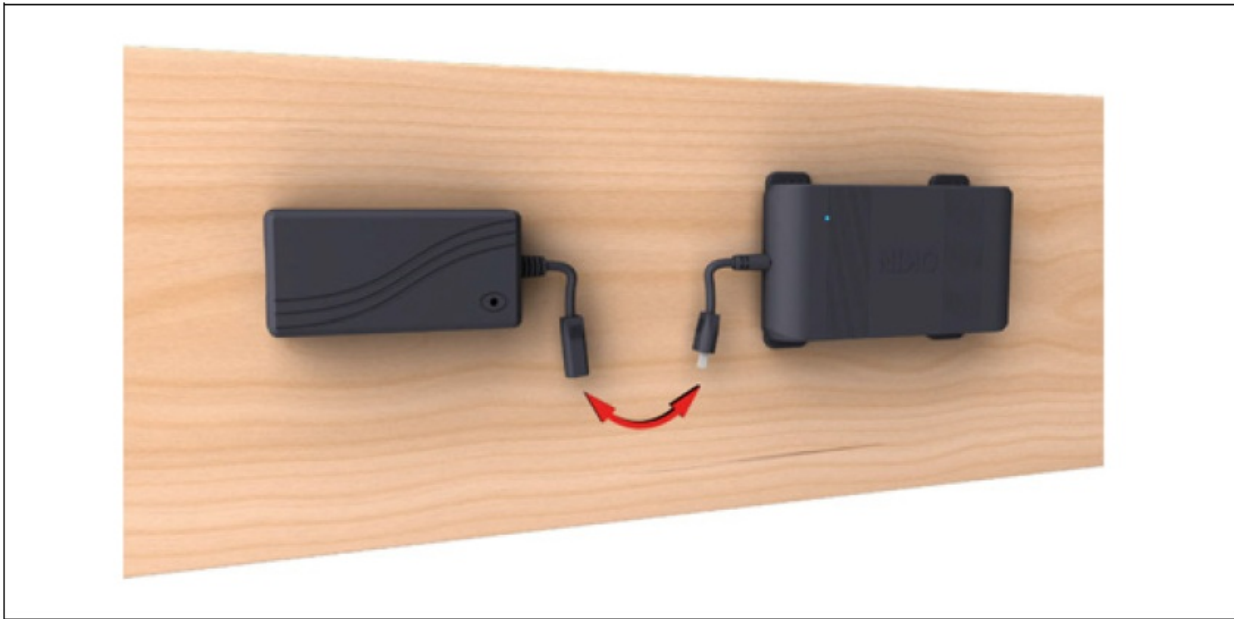

Figure 9 Example: Connecting the CU165 to the POWER SUPPLY PD22
1. Connect the CU165 to the external DewertOkin POWER SUPPLY PD22, as shown in Figure 9.